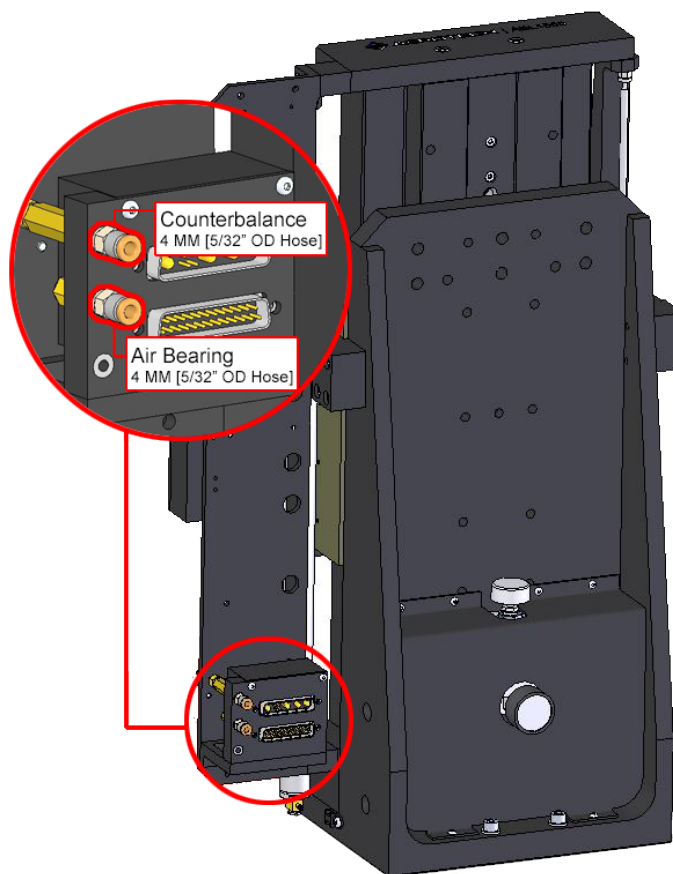

Figure 2-8: Connections for Air Bearing and Counterbalance
1. Before you remove the shipping bracket, connect the air lines to the air bearing and pneumatic counterbalance stage fittings (Figure 2-8).